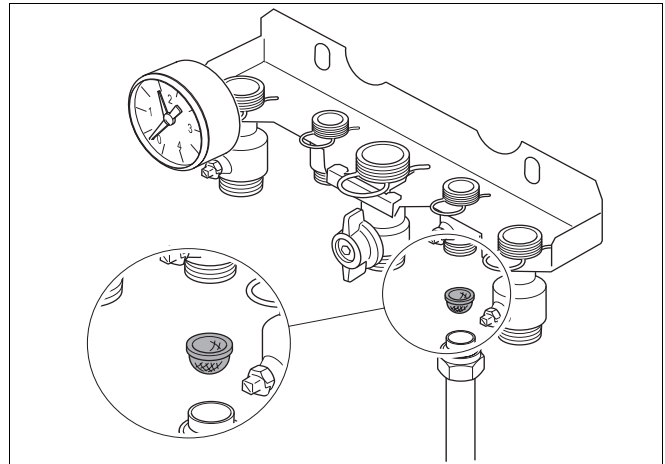
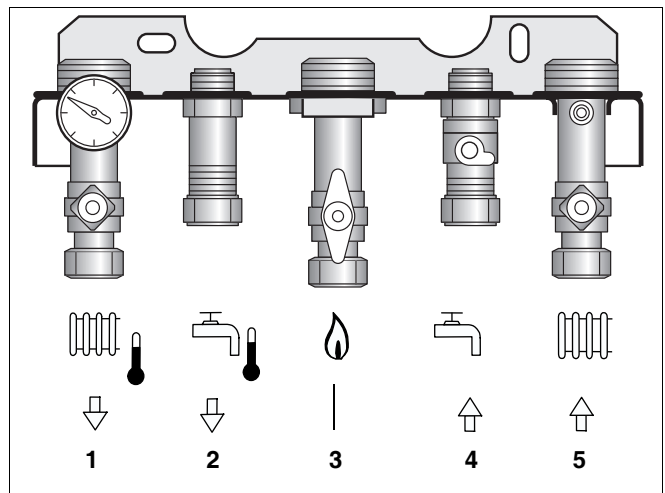

fig. 4 Placing filter in MCW inlet
fig. 5 Pipe connections
- Place the protection filter into the MCW inlet (see fig. 4 and fig. 5, item 4).
- Connect pipes as shown in fig. 5. Ensure that all pipework is routed so as to minimise any strain on the boiler fittings. Buderus advises to use copper piping for the first 600 mm, then it is allowed to switch to another approved pipe material.
- Connect pipes free of strain (fig. 5).